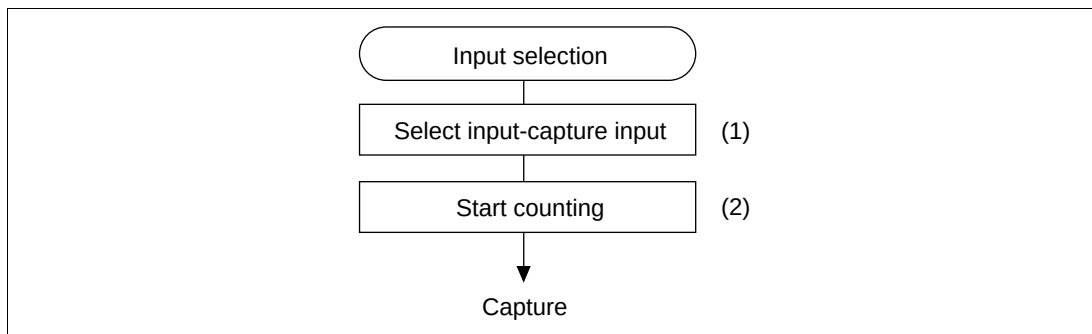

**Figure 10.23 Procedure for Selecting Input Capture Mode**
- Procedure for selecting input capture mode (figure 10.23)